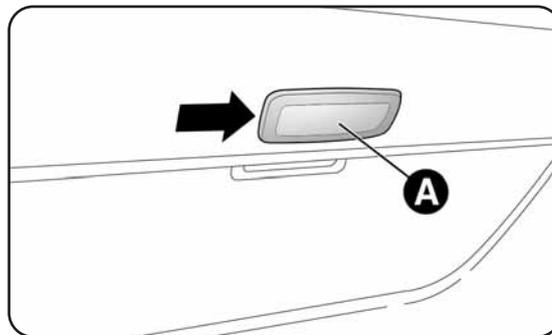

fig. 30
- work at the point shown by the arrow and remove light A-fig. 30;